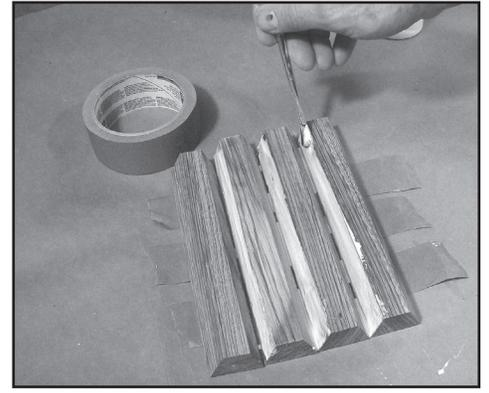

Fig. 3
3. Apply glue to the joints and use additional masking tape to draw the half-section closed. **Fig. 3 and 4.** Let the glue dry.